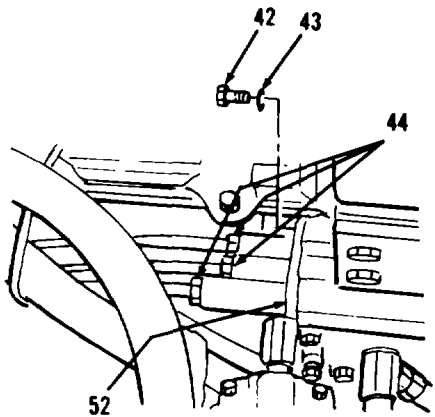
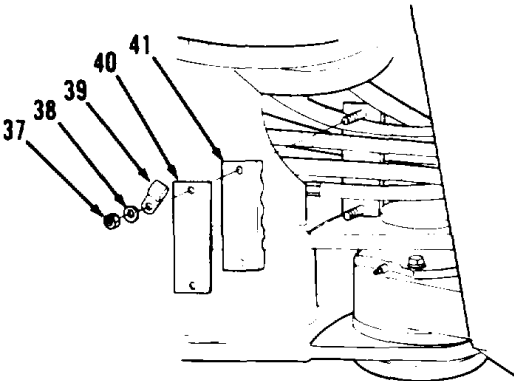
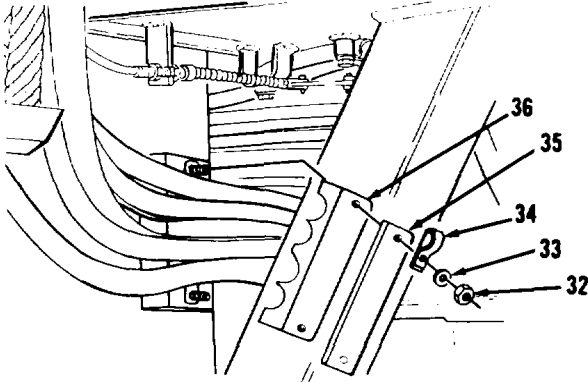

Figure 5-24.
Figure 5-23.
Figure 5-22.
- 6. Set three rod ends (48) into transmission control valves.
- 7. Move three couplings (45) with items 51 and 50 attached forward on cables (56, 55 and 54) and position over transmission control valves.
- 8. Slide retainer (52) forward and install three nuts (44, Figure 5-24). Tighten three nuts (44).
- 9. Install two washers (43) and bolts (42).
- 10. Install clamp (41), plate (40) and clip (39, Figure 5-23) under right, front side of engine compartment.
- 11. Install two washers (38) and nuts (37).
- 12. Install clamp (36), plate (35) and clip (34, Figure 5-22) under left, rear side of cab.
- 13. Install two washers (33) and nuts (32).